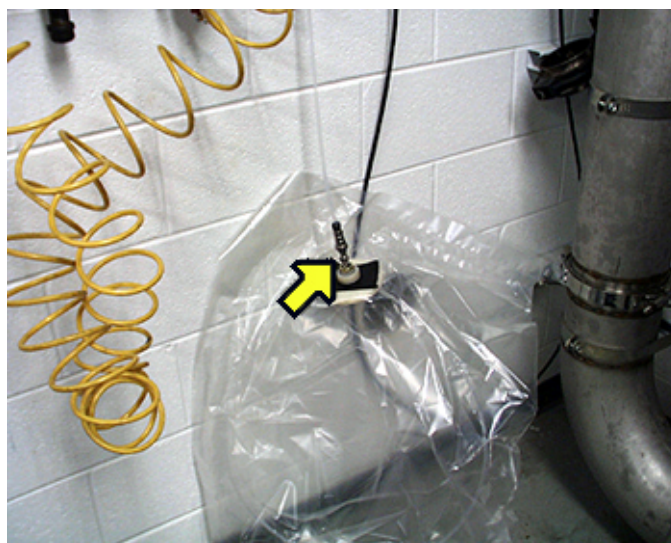

Figure 10
- 113 Enter the test cell and connect the sample bag to the SAC quick-disconnect for the bench selected for this process. See Figure 10.